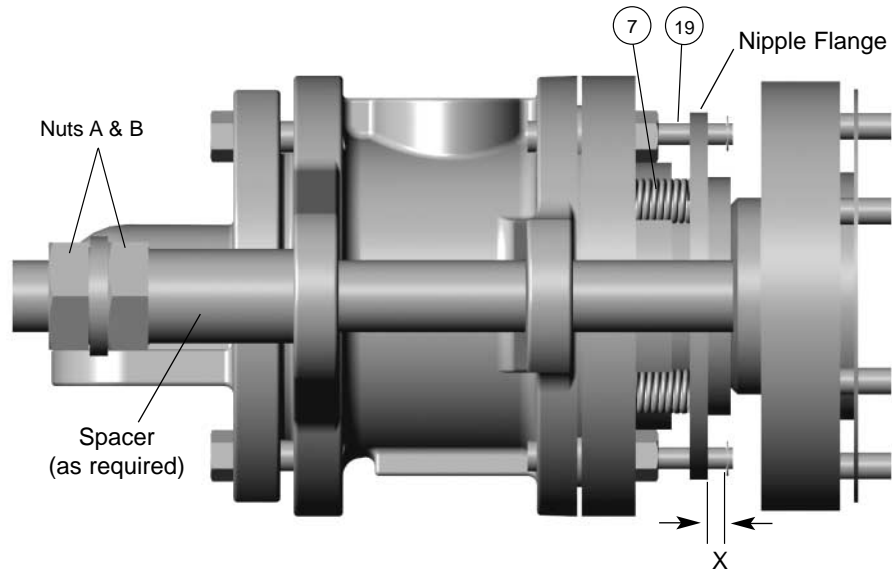

Figure 1
nuts inward until dimension (X) equals "set-up" dimension listed on the assembly drawing. See Figure 1. If the assembly drawing is unavailable, contact Kadant Johnson for the proper dimension.
As the carbon seal ring wears, the springs will extend, and dimension (X) will decrease. See Figure 1. When the seal is